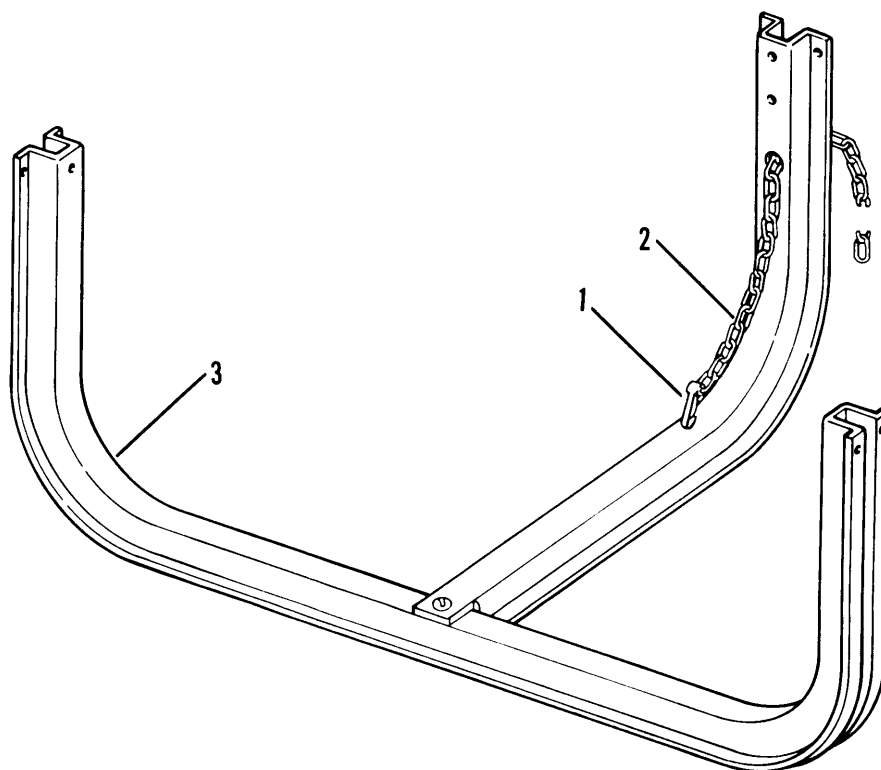

Figure 4-52. Spare Tire Carrier Chain Assembly.
- (1) Unhook clasp (1, fig. 4-52) from chain (2) on spare tire carrier (3) .
- (2) Remove spare tire.
- (3) Remove chain (2) from spare tire carrier (3) .